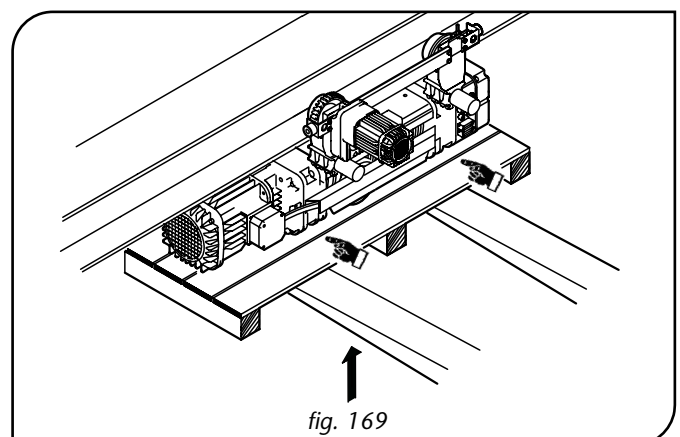

fig. 169
- Bring the pallet under the hoist until the feet of the hoist are in contact with the surface of the pallet. Lift slowly for few centimetres to detach the wheels from the girder (fig. 169).